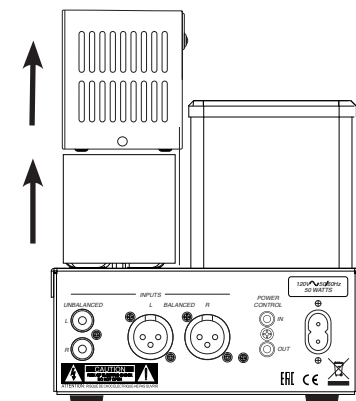

Figure 02– Lift Tube Cover and foam up
- Pull the Tube Cover upward off of the Tube Cover Retaining Posts (see Figure 02)
- Pull the protective foam straight up off the Vacuum Tubes (see Figure 02)